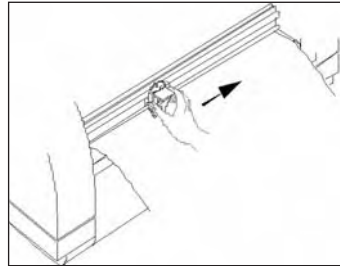

Figure 1
2) After lamination, move the cutter approximately to the center of the application at the desired point of detachment (Figure 1).